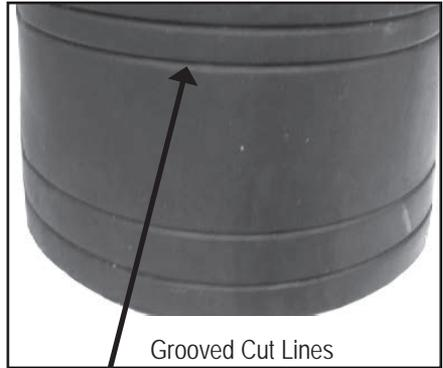

Figure-15
**Cutting:** Using a pair of scissors or other cutting instruments, choose the desired height according to the application to be performed and cut along the grooved cut lines, as shown in Figure-15